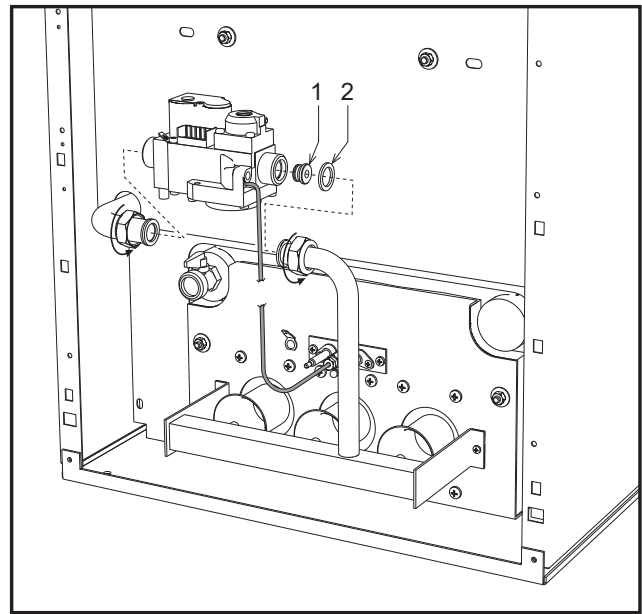

fig. 17 - Gas baffle
To convert the boiler from **Natural Gas to LPG** the gas diaphragm placed between the valve and the manifold pipe (ref. 1 - fig. 17) must be removed.
To convert the boiler from **LPG to Natural Gas** the gas diaphragm (ref. 1 - fig. 17) must be inserted. The correct gas diaphragm for each boiler model is given in the technical data table on sec. 5.3.
Key fig. 17